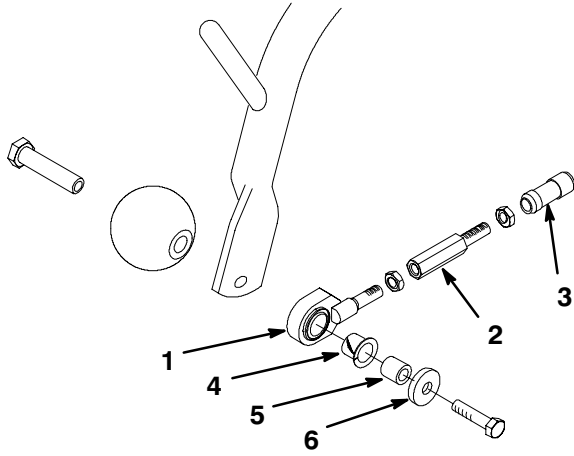

Figure 8
1. Mount an anti-scalp roller and a pull link assembly to the outer end of each front carrier frame with a roller shaft, spacer, washer, and screw (Fig. 8). Make sure the nylon bushing is in the pull link.